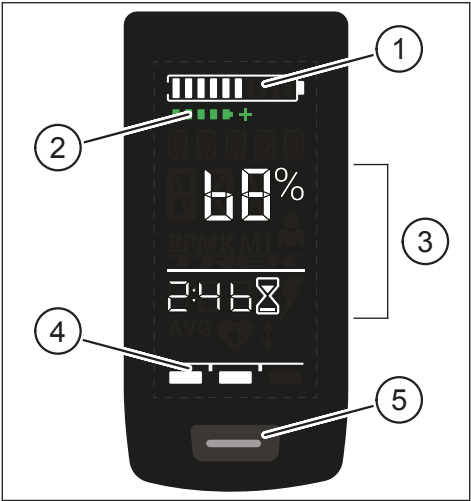
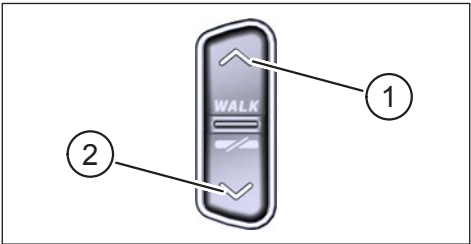

Fig. 1:      Operation and indication components on display
Fig. 2:      Operation on the remote
Pos. in Fig. 1	Description
Pos. in Fig. 2	Description
- ▶ Press and hold the button on the display (pos. 5 in Fig. 1) and the DOWN button on the remote (pos. 2 in Fig. 2) for at least 5 seconds.
- With a **short** press on the button on the display (pos. 5 in Fig. 1) you switch to the next screen view.
- Press the DOWN button on the remote control (pos. 2 in Fig. 2).